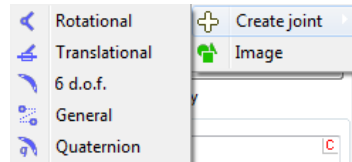

Figure 1.11. Creating new rotational joint
2. Click the button **Go to element**  and then select **Create joint | Rotational** to create a rotational joint, see Figure 1.11.